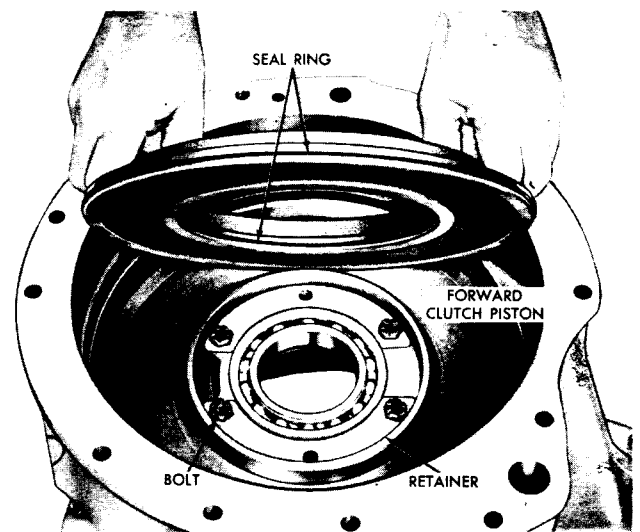

Fig. VII-11. Installing forward clutch piston assembly 52446
(1) Position the transmission housing assembly, front upward, and install the forward clutch piston assembly (fig. VII-11).
(2) Install one external-tanged and one